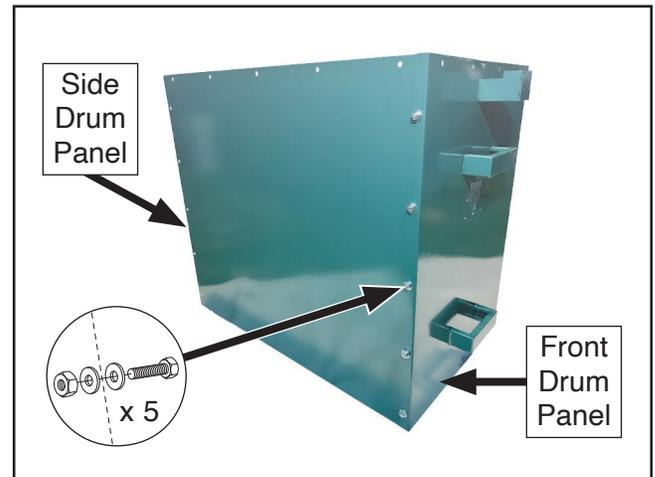

Figure 44. Side drum panel attached to front drum panel.
32. Attach (1) side drum panel to (1) front drum panel with (5) $\frac{5}{16}$ "-18 x $\frac{5}{8}$ " hex bolts, (10) $\frac{5}{16}$ " flat washers, and (5) $\frac{5}{16}$ "-18 hex nuts (see **Figure 44**).